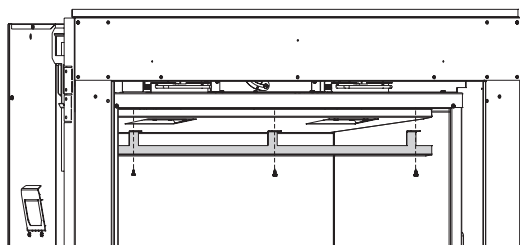

Figure 104
3. Remove the top liner bracket and top liner **See Figures 104 and 105.**